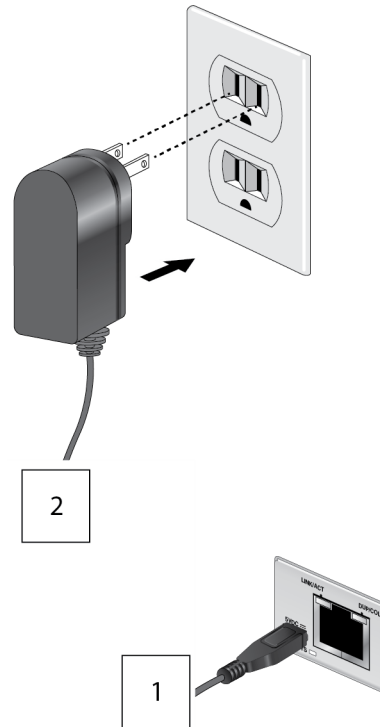

Figure 24. Connecting Power via Power Adapter
- Attach the other end of the USB cable to the USB port on the power adapter, then plug the power adapter to a power outlet, as shown in Figure 24 on page 47. Refer to “Power Specifications” on page 56 for power requirements.